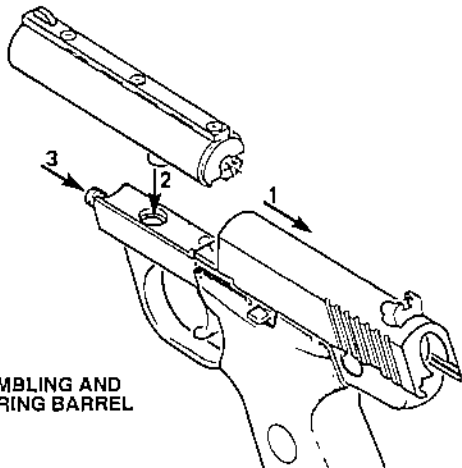

FIGURE 15. ASSEMBLING AND SECURING BARREL
5. Hold slide rearward about $\frac{1}{4}$ inch. Make sure barrel is empty and locate its mounting lug through hole in receiver . . . see Figure 15.